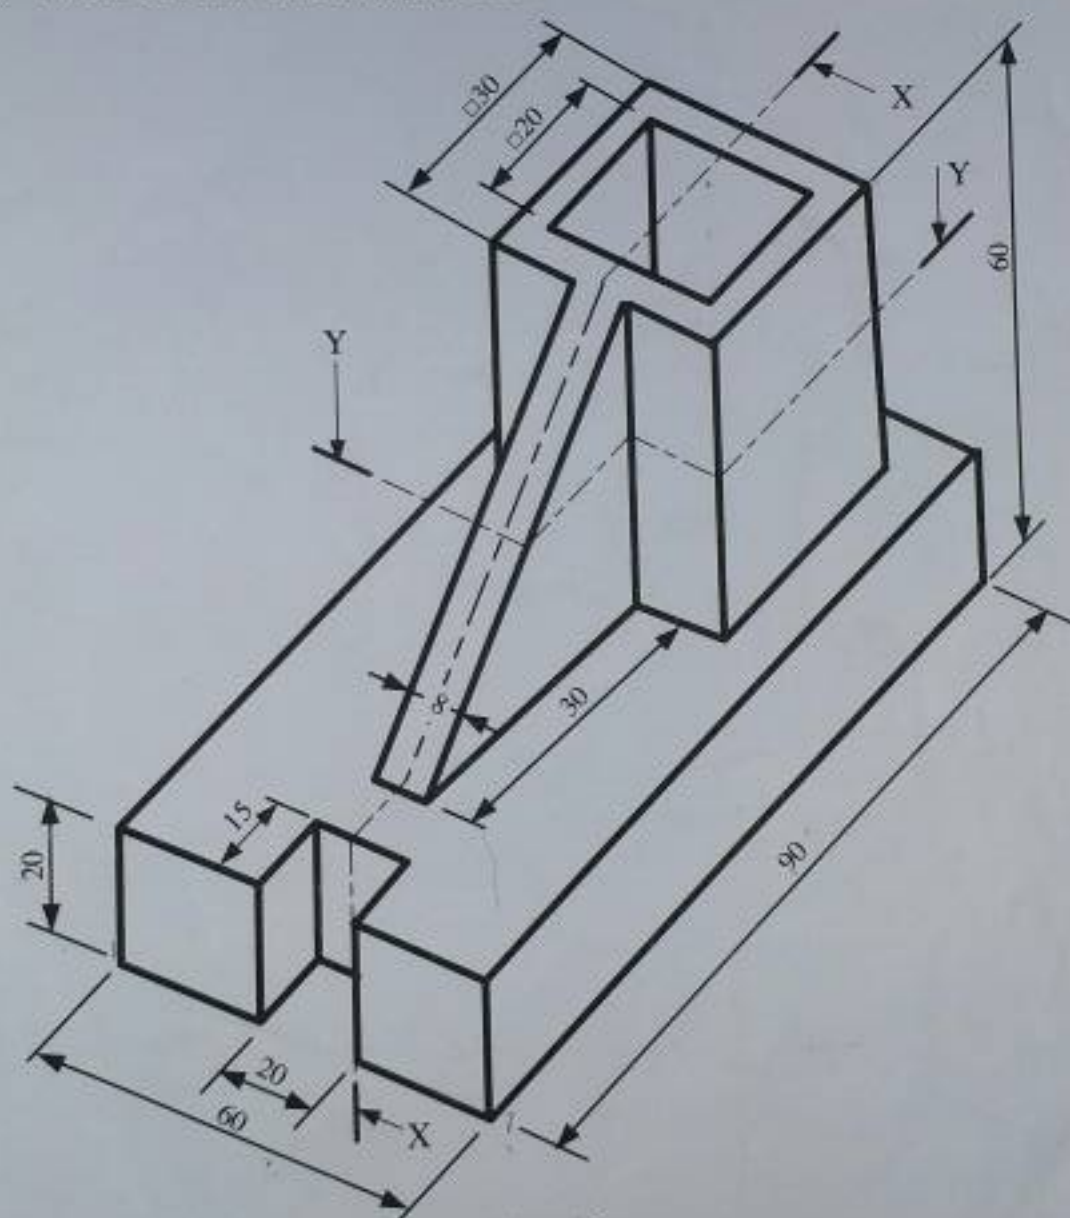

Figure 6
6. Figure 6 shows a pictorial drawing in isometric projection. Draw in full scale the following views in third angle projection: